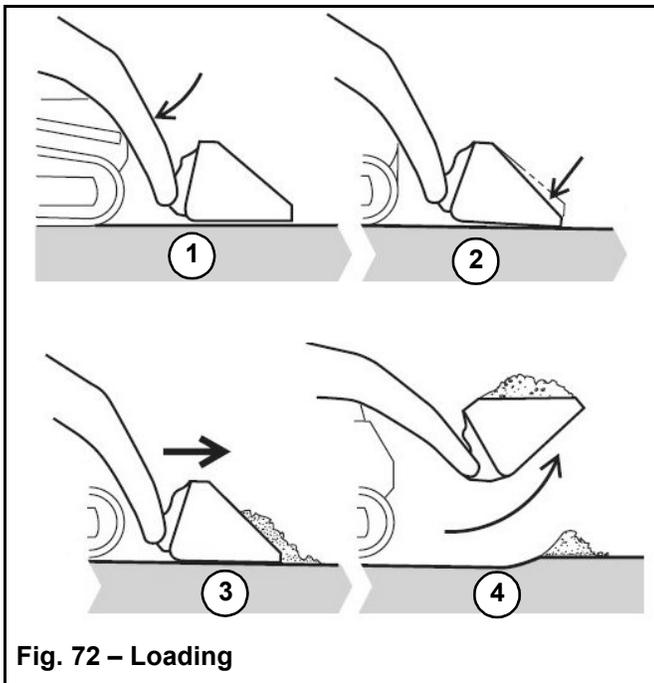

Fig. 72 – Loading
1. Lower the bucket to the ground (Fig. 72).
1. Lower the bucket a few inches from the ground (Fig. 72). Slowly drive up to the hole until the front edge of the bucket is over the near edge of the hole.